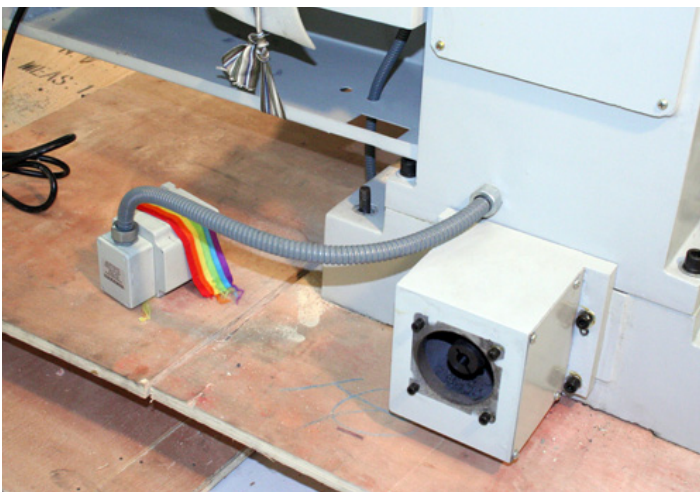

Figure 2.5: Y-axis Motor as Shipped and Mounting Flange
- Un-strap the stepper motor from its transit position (figure 2.5).